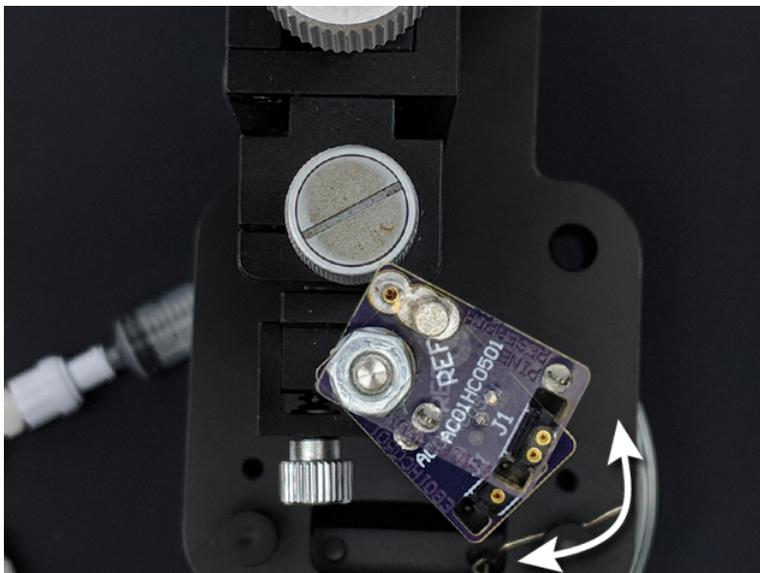

Figure 4-7. Malli Adapter for Flow Cell Variable Position
5. The arm on the Malli Adapter for Flow Cell is not centered on the circuit board. Therefore, it may be necessary to swivel the adapter once installed into the micromanipulator. If it appears as though there is not sufficient y-axis adjustment distance, swivel the entire adapter accordingly to regain sufficient y-axis movement space about the solution delivery hole (see: Figure 4-7).